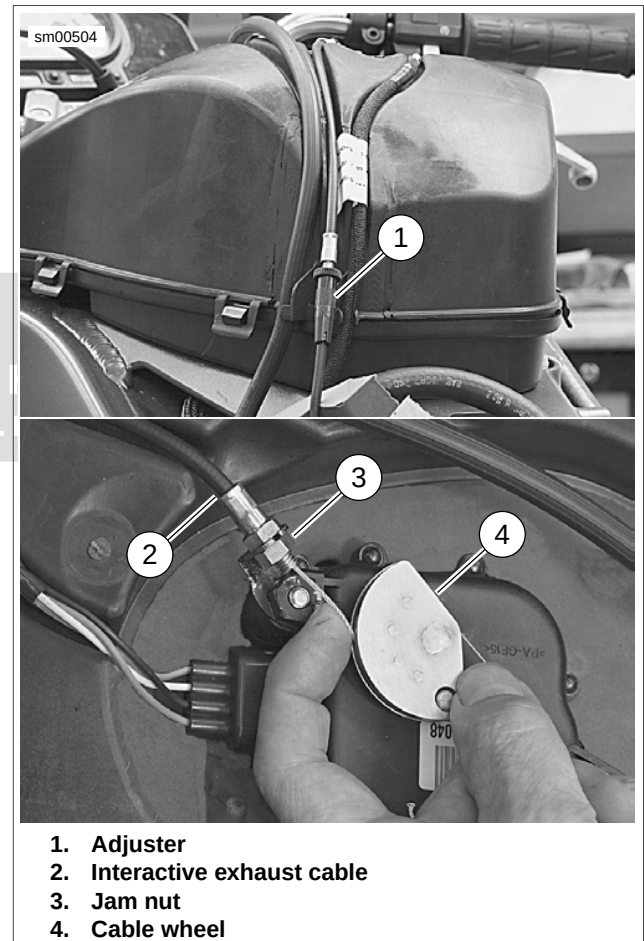

Figure 1-45. Interactive Exhaust Cable
3. See Figure 1-45. Loosen jam nut (3).
4. Remove cable (2) from bracket and cable wheel (4).